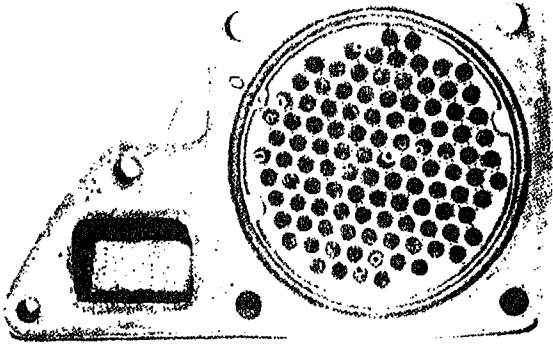

Fig. 7-5-2. Oil cooler element index marks
2. Push element into housing, aligning index marks on housing and element. See Fig. 7-5-2.